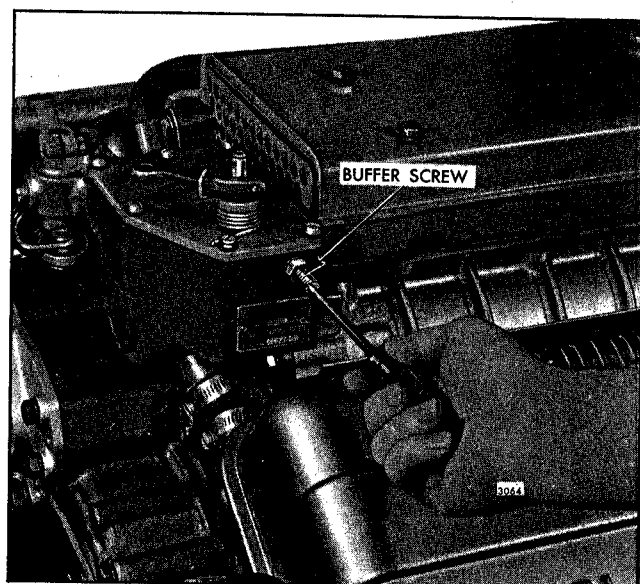

Fig. 20 - Adjusting Buffer Screw
1. With the engine running at idle speed, turn the buffer screw in (Fig. 20) so that it contacts the differential lever as lightly as possible and still eliminates engine roll.